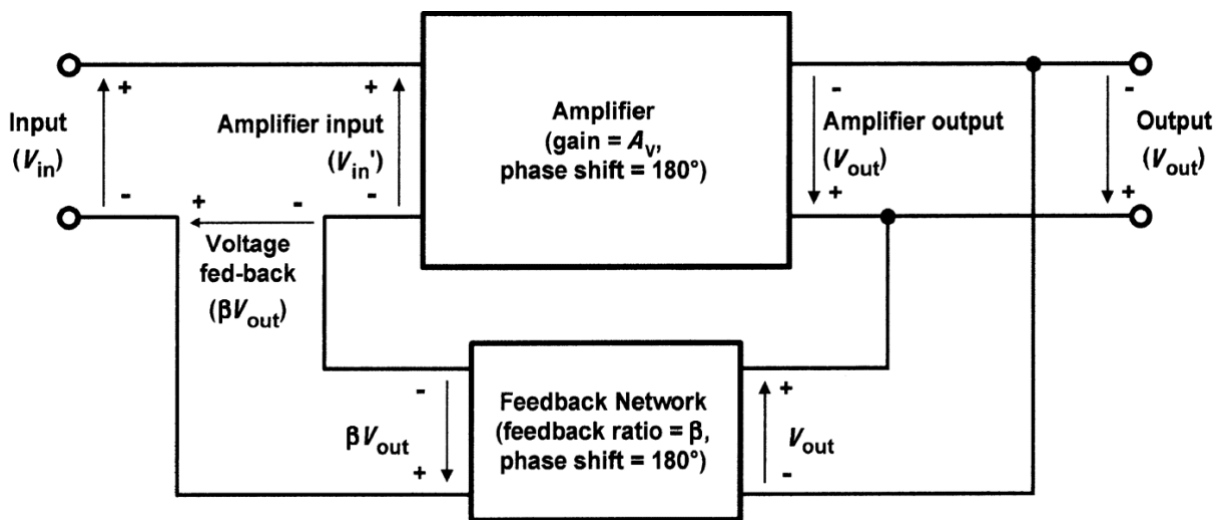

Figure 1.30 Amplifier with negative feedback applied
- Fig. 1.30 shows the block diagram of an amplifier stage with negative feedback applied.